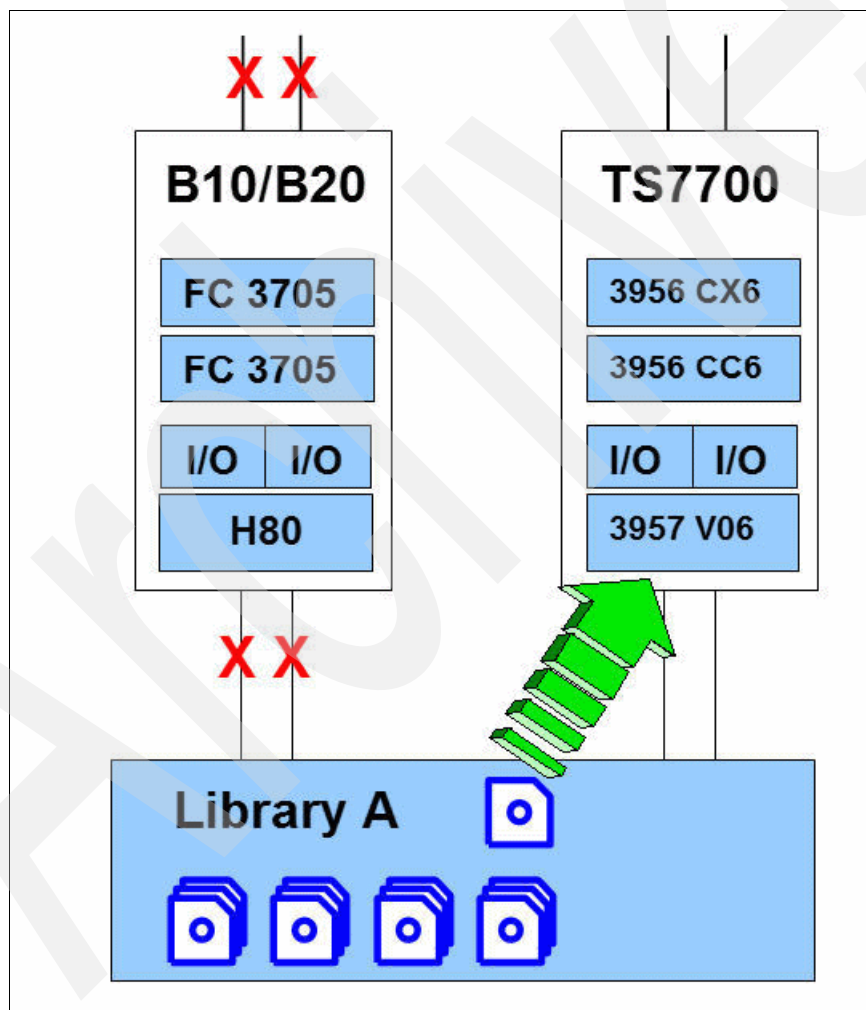

Figure 6-4 Standalone VTS hardware migration
- ▶ The TS7700 connects to the same tape library as the VTS (see Figure 6-4)
Figure 6-4 gives you an overview of the migration process that we describe in this section.